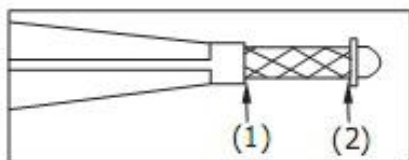

Fig. 1
4. Remove the oil filler cap (A), wipe it clean, and insert it back in to its place but DO NOT screw it back in.
5. Check that the oil level is within the (1) & (2) hash-marks on the dip stick as in Fig. 1
6. If the oil level is at or near the upper mark (1), you do not need to add oil.
7. If the oil level is at or near the lower mark (2), you need to add oil.
8. Add the recommended oil until the upper mark (1), is reached. (DO NOT OVERFILL)
9. You can also check the oil level through the sight glass (B)